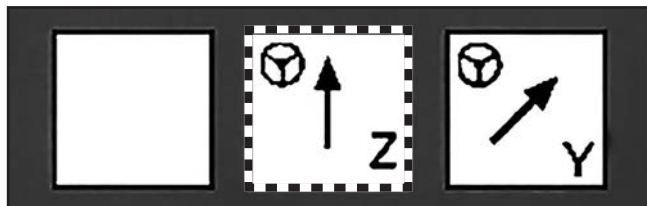

Figure 80. Up-arrow Z traverse key .
- Press and release up Z-axis traverse key (see **Figure 80**).